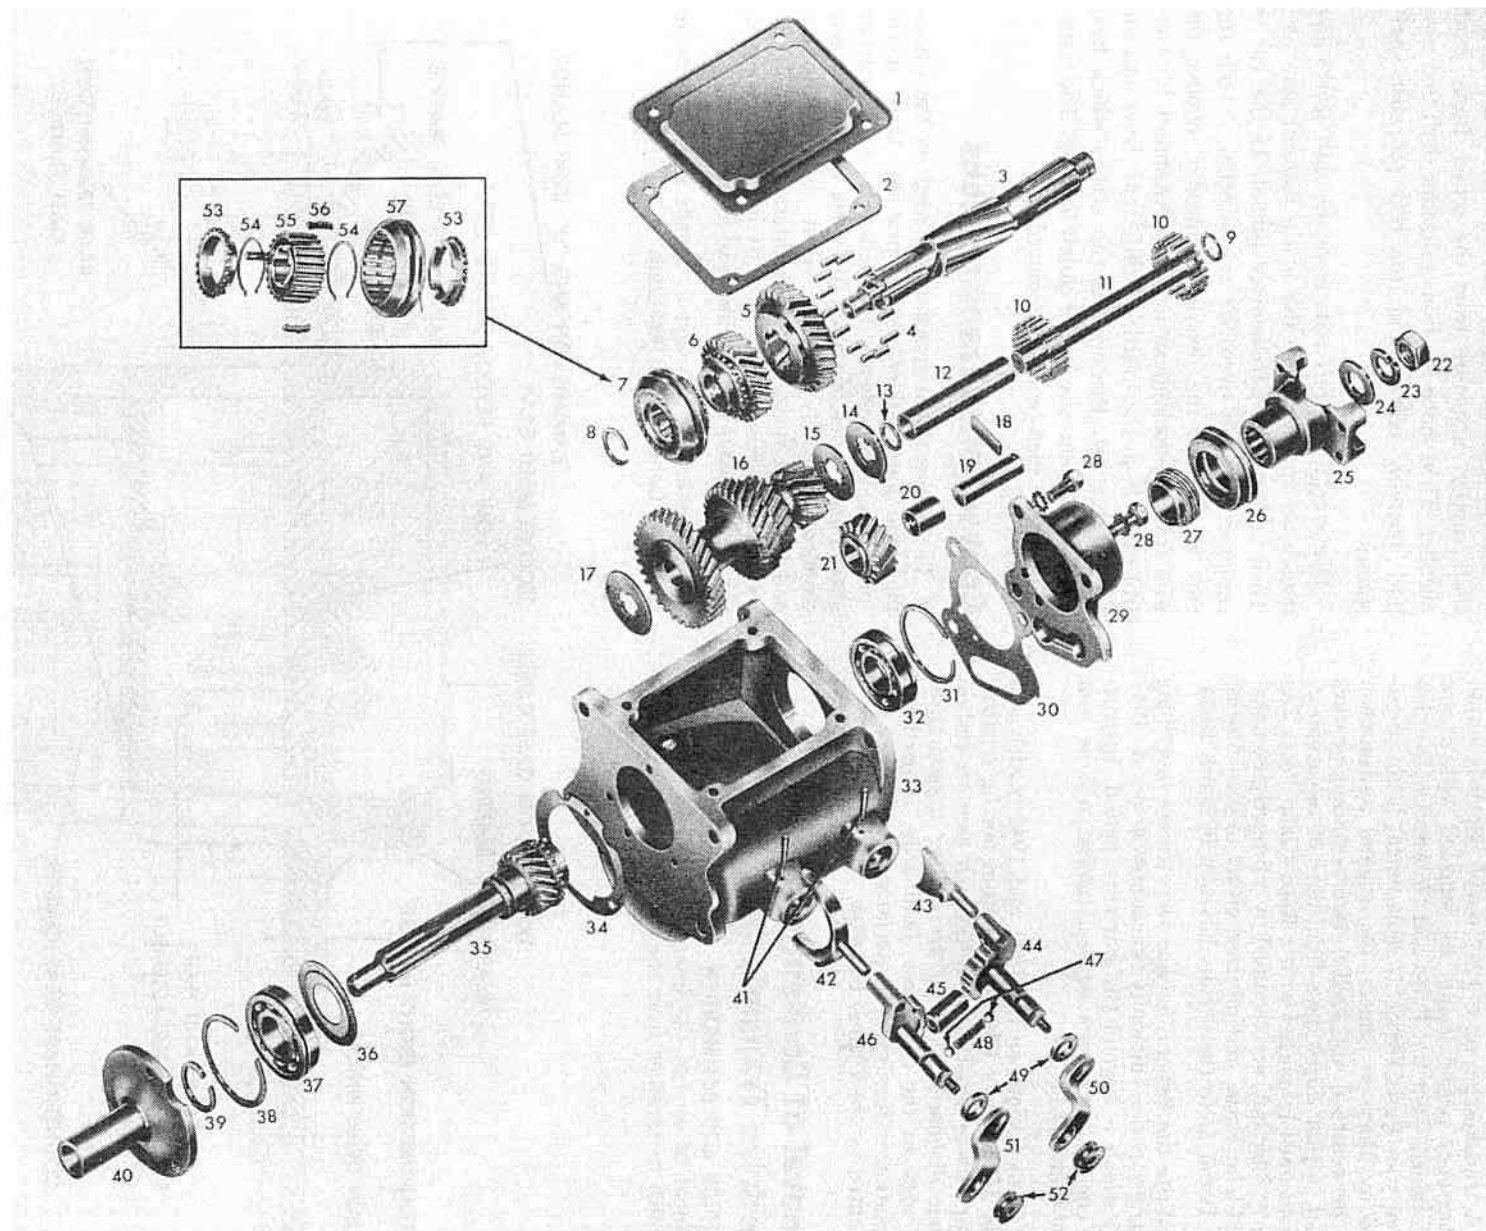

FIG. 315.—PARTS OF THE CHAMPION AND COMMANDER CONVENTIONAL TRANSMISSION
**KEY TO PARTS OF CONVENTIONAL TRANSMISSION IN FIGURE 315**